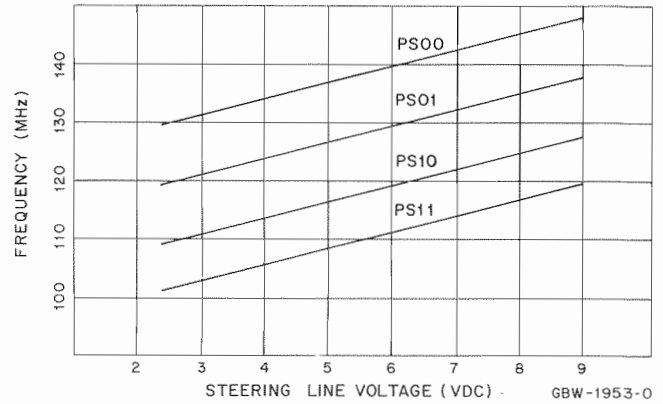

Figure 1. VCO Response to Steering Line Voltage
adaptive filter. The phase detector supplies a dc output voltage to maintain the VCO output at the desired frequency. When the frequency is changed, the phase detector dc output voltage shifts to change the oscillator frequency and then maintain this new frequency. Figure 1 shows the transmit and receive oscillator frequencies as functions of the steering line dc voltage.
(1) Remove jumper JU600 to open the STEERING LINE loop. Connect a one-kilohm resistor to the plus terminal of a 0–10 V adjustable power supply and connect the free end of the resistor to the VCO side from which JU600 was removed (the side not connected to C637). Connect the negative terminal to B–. This power supply serves as a steering line in this test.
(2) Connect a frequency counter to the VCO feedback from the internal casting (P600). Check the pinshift lines to determine the expected VCO operating range. Verify that the lines are either high ( $\geq 9$  V) or low ( $\leq 0.5$  V). Slowly vary the steering line voltage from 3 V to 8 V. Verify that the VCO covers its intended frequency range (see 2.6.2.2 and Figure 1). Also check the power level and verify that it is greater than  $-2$  dBm. Check for proper operation in all pin states. If the pinshift lines are